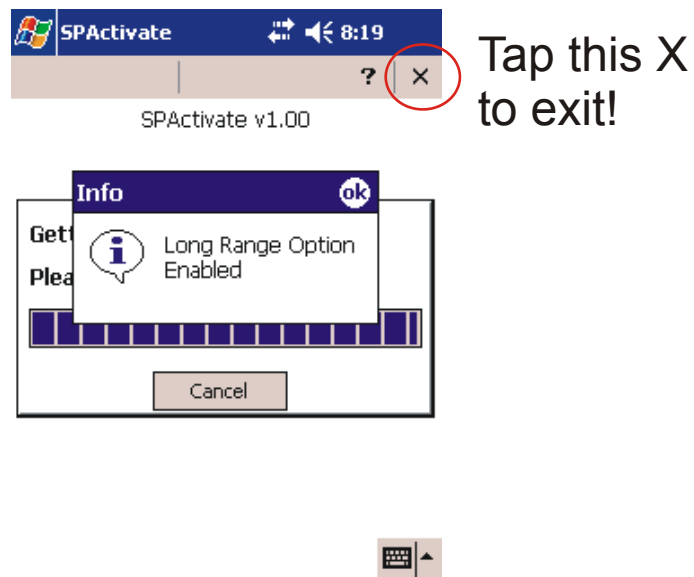

Figure 23. Feature Enable Program
- g. Wait for the *Long Range Option Enabled* message (see Figure 23). Click **OK** to continue.